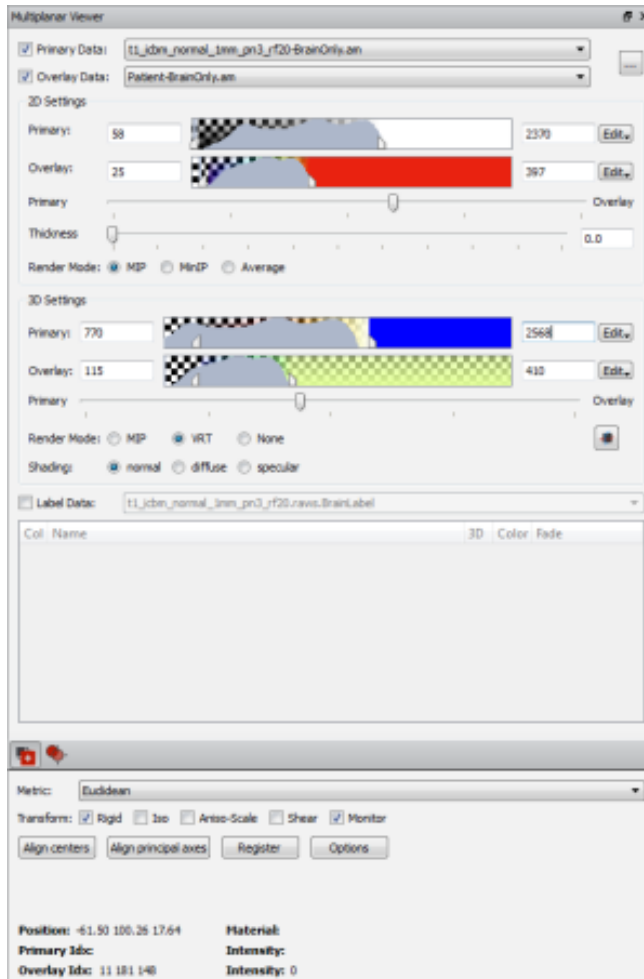

Figure 13.7: Data and window level settings of the *Multiplanar Viewer* for the automatic registration
- Set up *Primary/Overlay Data* as well as 2D/3D Settings as shown in Fig. 13.7. The colormaps used in this example are *GrayScale.am / physics.icol* for *2D Settings* and *Glow.col / volren-Green.col* for the *3D Settings*.